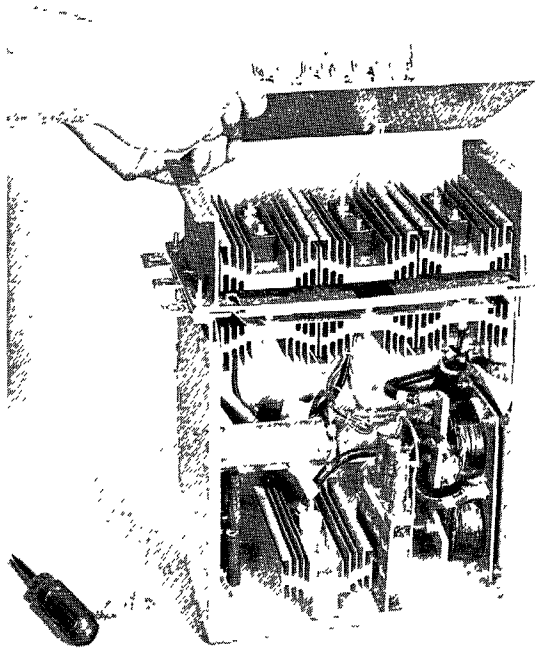

FIGURE 14
5. Fold back the cover, thereby, exposing the Press Pak SCR heatsink clamps. The remaining wire harnesses should support the front insulation cover while removing and replacing the defective Press Pak SCR cell. See Fig. 14.